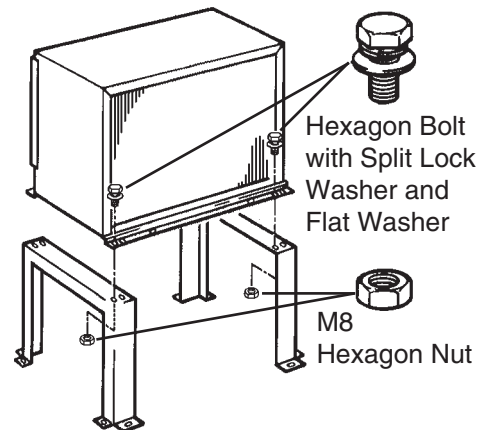

Fig. 5
- 1) Secure the legs to the remote condenser unit with eight M8×16 mm hexagon bolts and M8 nuts as shown in the illustration. See Fig. 5.